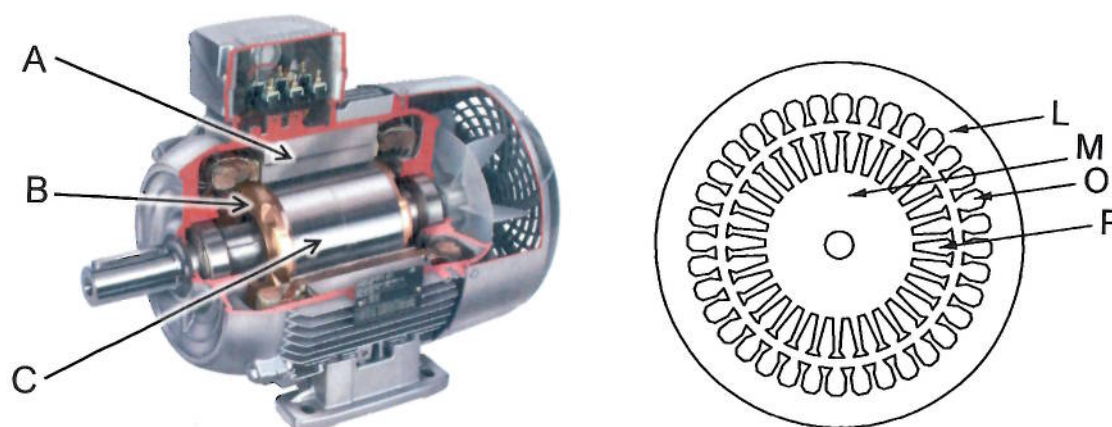

Figure 2. Cut-away and cross-section of an induction machine
a) Figure 2 shows a cut-away of an induction machine and a cross-section through the machine showing the shape of the laminations.